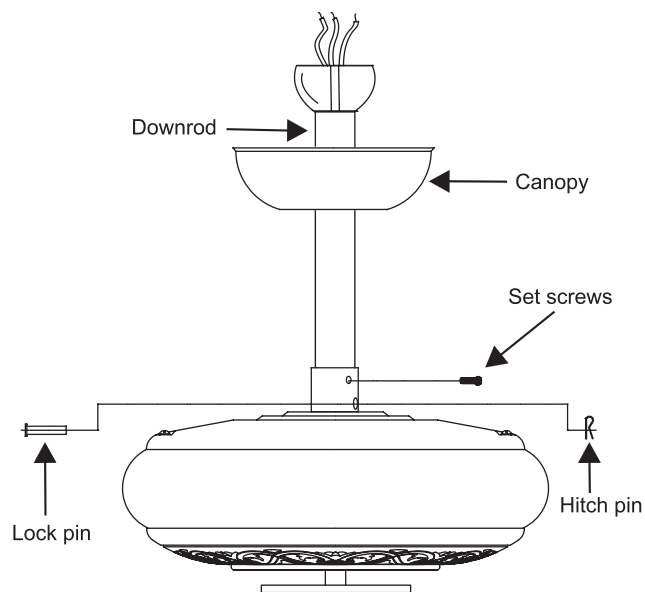
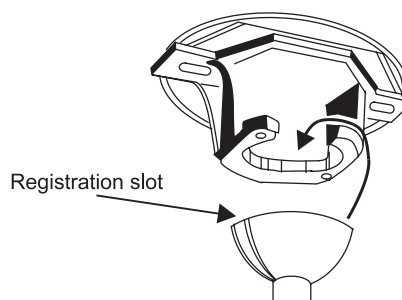

Figure 6
Figure 7
Step 4. Route wires exiting from the top of the fan motor through the canopy and then through the ball / downrod. (Fig. 6)
Step 5. Align the holes at the bottom of the downrod with the holes in the collar on top of the motor housing (Fig. 7). Carefully insert the hanger pin through the holes in the collar and downrod. Be careful not to jam the pin against the wiring inside the downrod. Insert the locking pin through the hole near the end of the hanger pin until it snaps into its locked position, as noted in the circle inset of Fig. 6.
Step 6. Tighten two set screws on top of the fan motor firmly. (Fig. 6)
Step 7. Place the downrod ball into the hanger bracket socket. (Fig. 7)